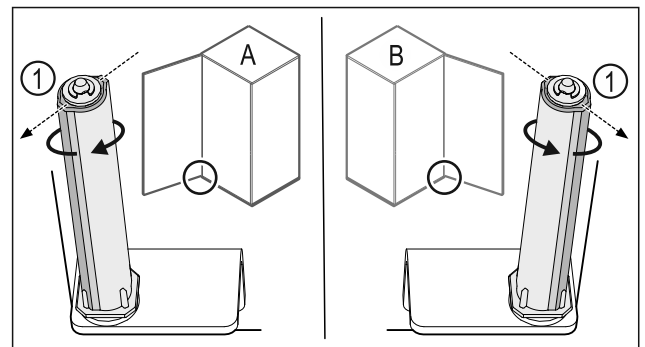

Fig. 43 Left stop (A) / right stop (B)
- Turn the locking system against the resistance until the bar on the locking system Fig. 43 (1) is pointing outwards.